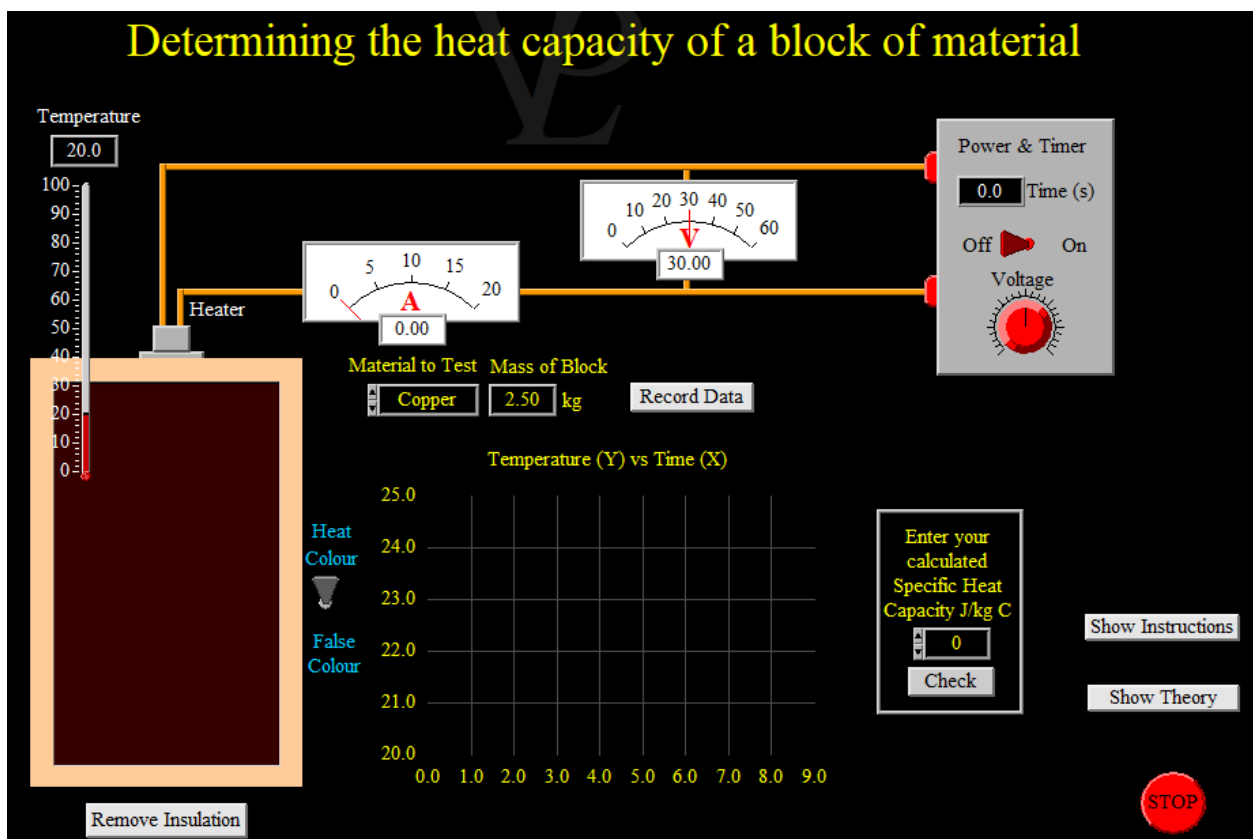

Fig. 2
1. At first unzip “**Specific Heat Capacity_vle (zipped)**” File. Click on the executable file “**Specific Heat Capacity_vle**” then a window will open as shown in Fig. 2.